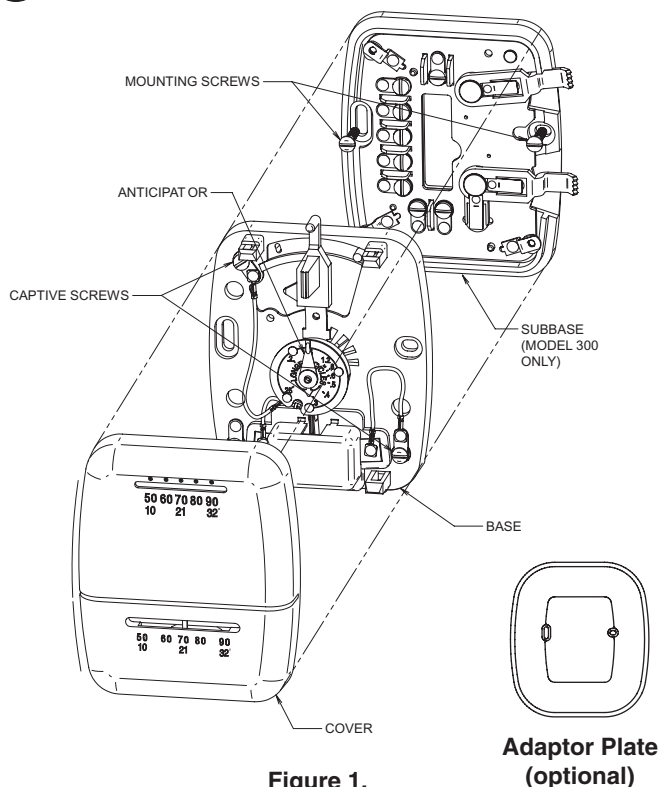

Figure 1.
- B. **Mount switching subbase/adaptor plate:** Use the screws provided to mount the subbase and adaptor plate (optional) to wall (see Fig. 1).
- D. **Mount Thermostat Base:** Gently push excess wire back into the wall opening and plug hole with a fire-resistant material, such as fiberglass insulation to prevent drafts from affecting thermostat operation. Mount the thermostat base to the sub-base using the three captive screws on the thermostat base. (See Fig. 1) Tighten the screws securely. Remove paper tag from plastic contact cover. Proceed to Step #5.